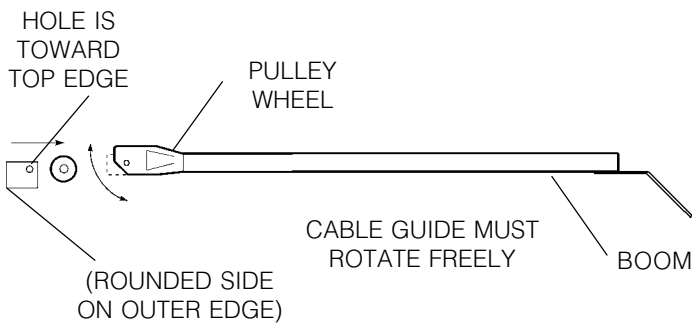

Fig. 9-5 Mounting cable guide and pulley wheel to boom.
- B. Place the **pulley wheel** inside the cable guide and place this subassembly into the end of the boom (Fig. 9-5). Ensure the **clevis pin** through-hole is toward the top of the boom and the rounded end of the cable guide is toward the outside. Slide the clevis pin through the hole and fasten with the 1/8" x 1" cotter pin.